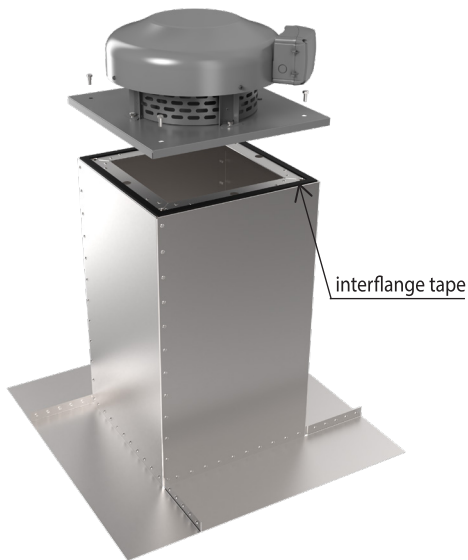

Figure 1
3) Stick the interflange tape (not included in the set) along the edge of the mounting cup, as shown in the picture.- see **point 1.5 and figure 1.**